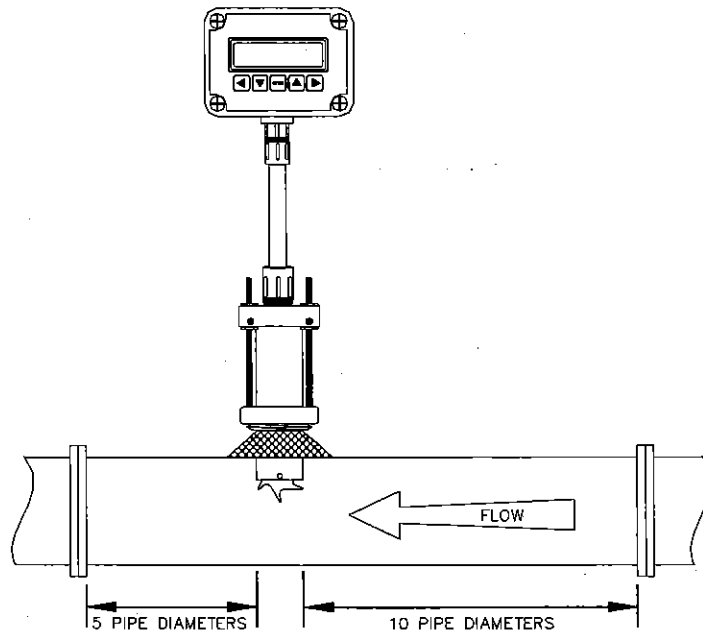

Figure 1-3 Minimum Distance from Flow Disturbance Devices (Model 400 sensor shown with Model 211OR1F monitor)
- Locate the sensor on a straight piping run to provide a smooth and fully developed flow profile (Reynolds number of 4000 or greater). Ensure that any flow disturbance device (such as elbows, tees, etc.) are located a minimum of 10 pipe diameters upstream and 5 diameters downstream of the sensor. (Figure 1-3). (Greater distances may be required when piping arrangements include valves, pipe reducers, elbows, or any other devices that alter the smooth flow profile directly ahead of or after the sensor.)